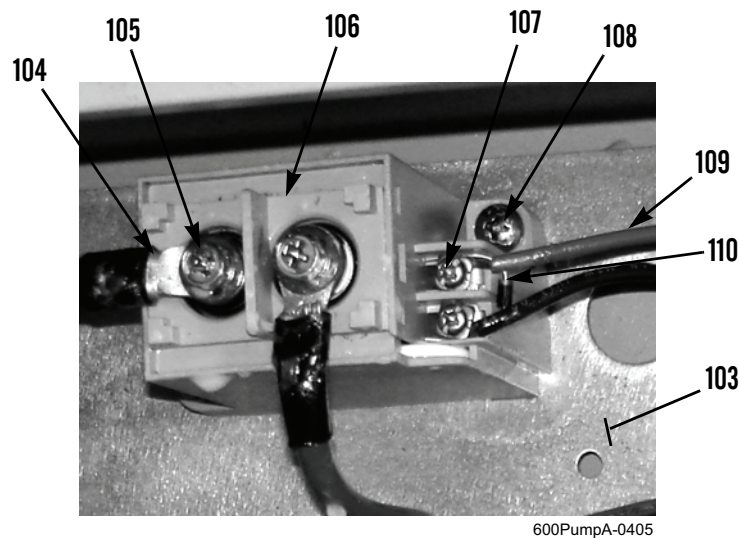

Figure 30. Preheat Relay.
1. Remove two screw and washer assemblies (Figure 30, Item 105) and wires (Figure 30, Item 104) from preheat relay (Figure 30, Item 106).
2. Loosen two screws (Figure 30, Item 107), wires (Figure 30, Item 109), and diode (Figure 30, Item 110) from preheat relay (Figure 30, Item 106).
3. Remove two screws (Figure 30, Item 108) and preheat relay (Figure 30, Item 106) from inside circuit board panel (Figure 30, Item 103).
1. Install preheat relay (Figure 30, Item 106) on inside circuit board panel (Figure 30, Item 103) with two screws (Figure 30, Item 108).
2. Install diode (Figure 30, Item 110) and two wires (Figure 30, Item 109) and tighten screws (Figure 30, Item 107) on preheat relay (Figure 30, Item 106).
3. Install two wires (Figure 30, Item 104) and new screw and washer assemblies (Figure 30, Item 105) on preheat relay (Figure 30, Item 106).